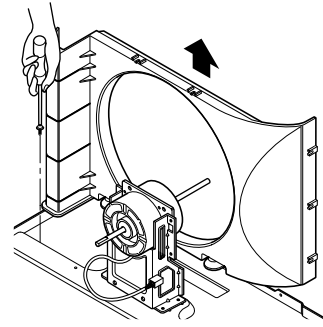

Figure 9
3. Remove the shroud. (See Fig. 9)